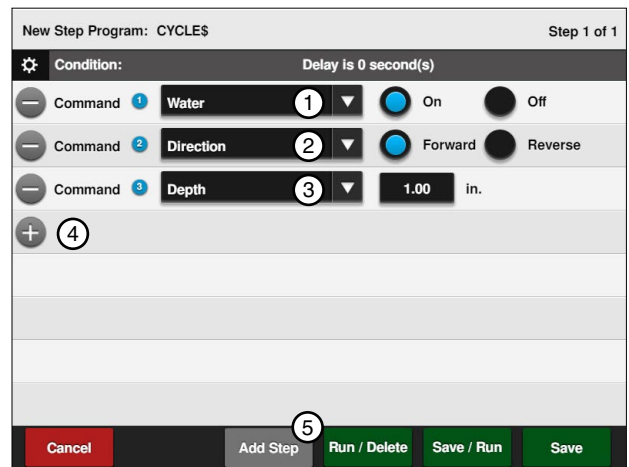

Figure 155-3 1. Water On 4. Add Command
4. Enter the commands to be executed. Refer to Figure 155-3.